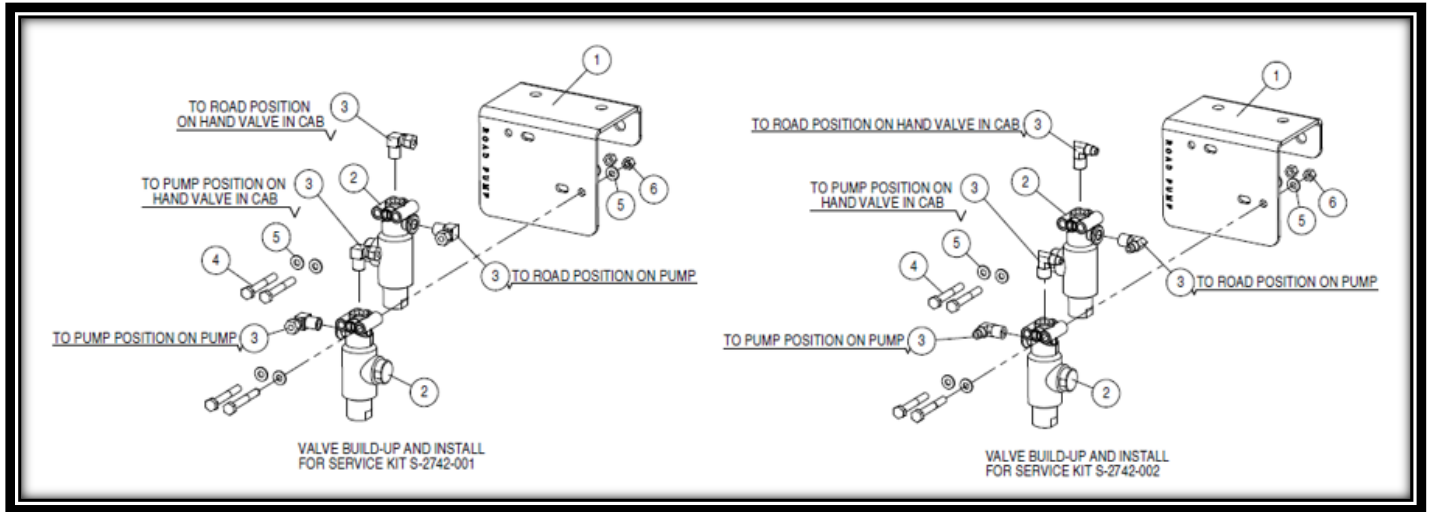

FIG 6.1
Refer to Fig 6.1.
14. Attach the solenoids to the bracket using 05180225H8Y (Item 4), 05FWSAE8Y (Item 5) and 0518LN8Y (Item 6). Torque bolts to 21 lb-ft. Refer to Fig 6.1.